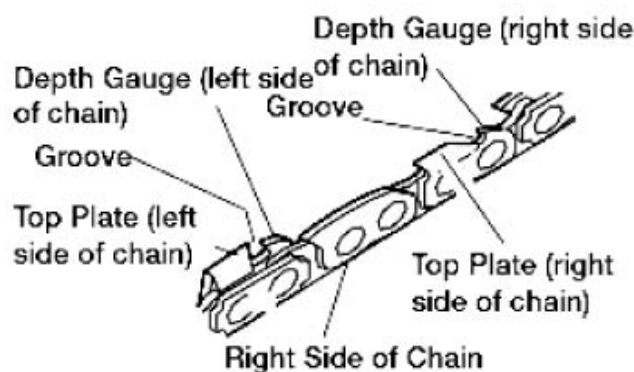

Figure 13
4. Hold file guide level. Make sure 30° mark on file guide is parallel to center of guide bar (see **Figure 13**). This will insure that you file cutters at 30° angle.
5. File from inside towards outside of cutter until sharp. Only file in this one direction (see **Figure 13**). (Note: Two or three strokes with file should sharpen cutter.)